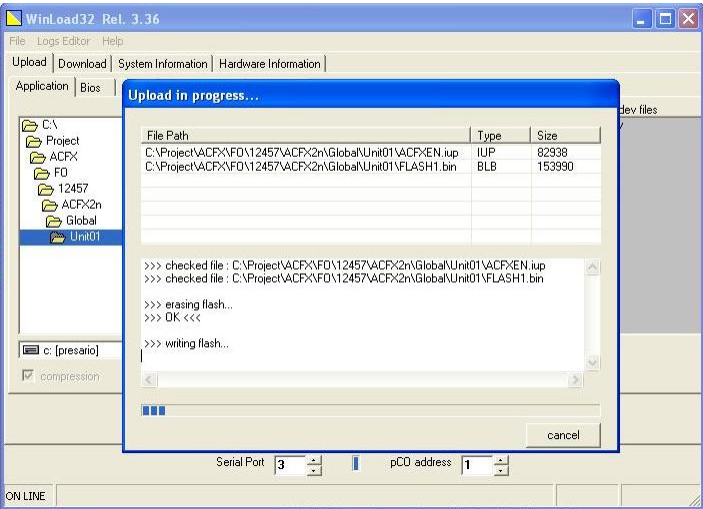
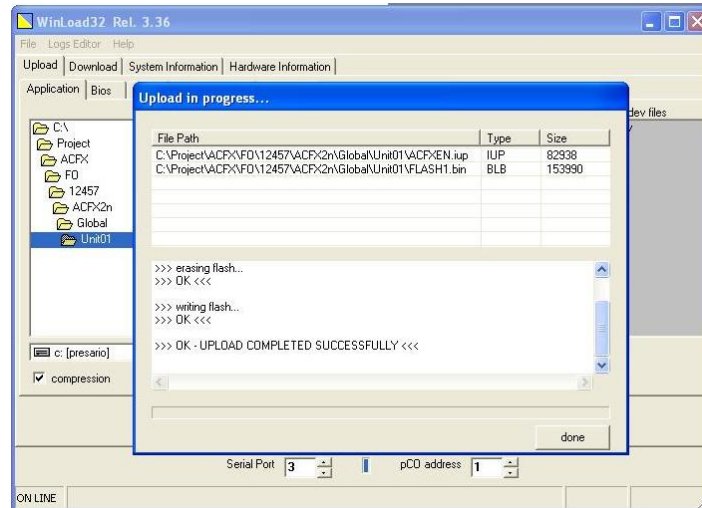

Figure 6.1.4
Figure 6.1.5
- v. Uploading application program is progress (Figure 6.1.4) and uploading is done (Figure 6.1.5).